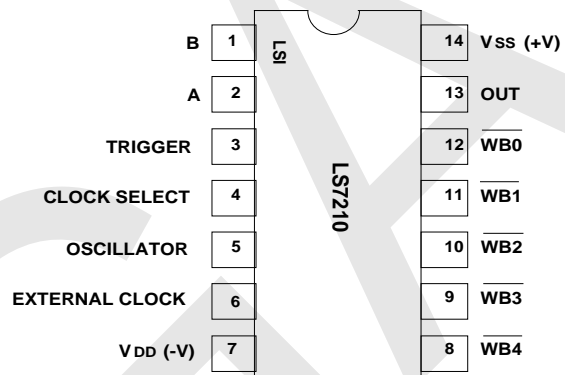

FIGURE 1
- LS7210 (DIP); LS7210-S (SOIC) - (See Figure 1)